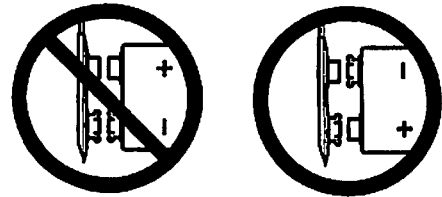

Figure 11: Smartap® Battery Connections
24. Disconnect battery. The battery connection is a snap type connector (Figure 11).
27. **CAUTION:** Verify battery connector alignment before making connection (Figure 11).